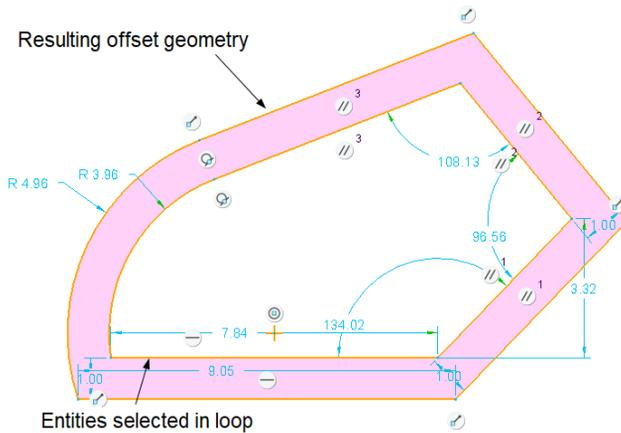

Figure 3-22 Offset created in loop mode
- You can create offset of a closed loop generated by two or more entities. To do so, select the **Loop** radio button from the **Type** dialog box and then select an entity of the loop; the **Enter offset in the direction of the arrow [Quit]** edit box will be displayed above the drawing area. Specify the offset value in this edit box and choose the **OK** button; the offset of the selected loop will be created, refer to Figure 3-22.